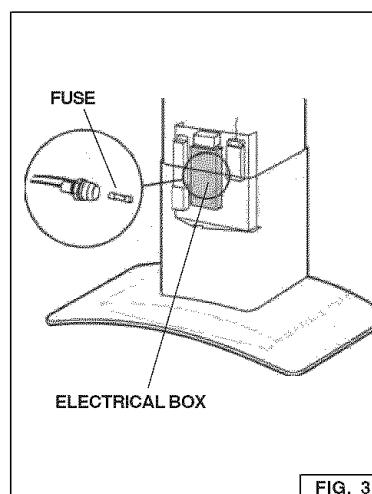

FIG. 3
1. Raise or remove the lower decorative flue. See Figure 3.